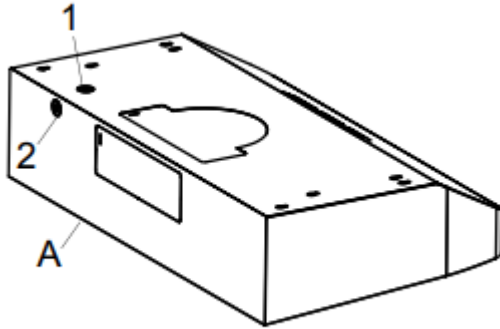

Fig.10
- Use the power supply cable to connect the range hood (A) directly to the junction box or circuit breaker box. Use a flexible, armoured, or nonmetallic sheathed copper cable only. Never use an extension cord or adapter plug .
- Connect a UL-listed or CSA-approved conduit connector to each end of the power supply cable (at the range hood and at the junction box). Connect the 2 colored wires from the range hood (A) to the corresponding wires from the electrical source: black to black (live), white to
white (neutral), and the house grounding wire to the green ground screw. Use either the top hole (1) or the back hole (2) of the range hood depending on your installation type as shown in Fig. 10.
- Choose the appropriate electrical knock-out hole to remove for your installation type. Use the top hole (1) if your electrical supply is in the cabinet and the back hole (2) if your electrical supply is on the wall below the cabinet (refer to Fig. 10).